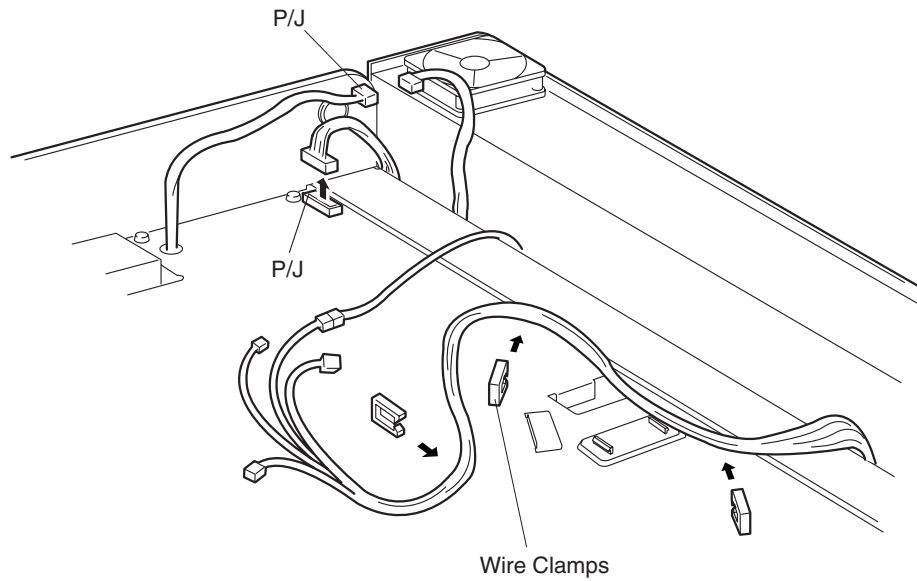

Figure 1
5. Free the wire harnesses from the wire clamps (Figure 1).